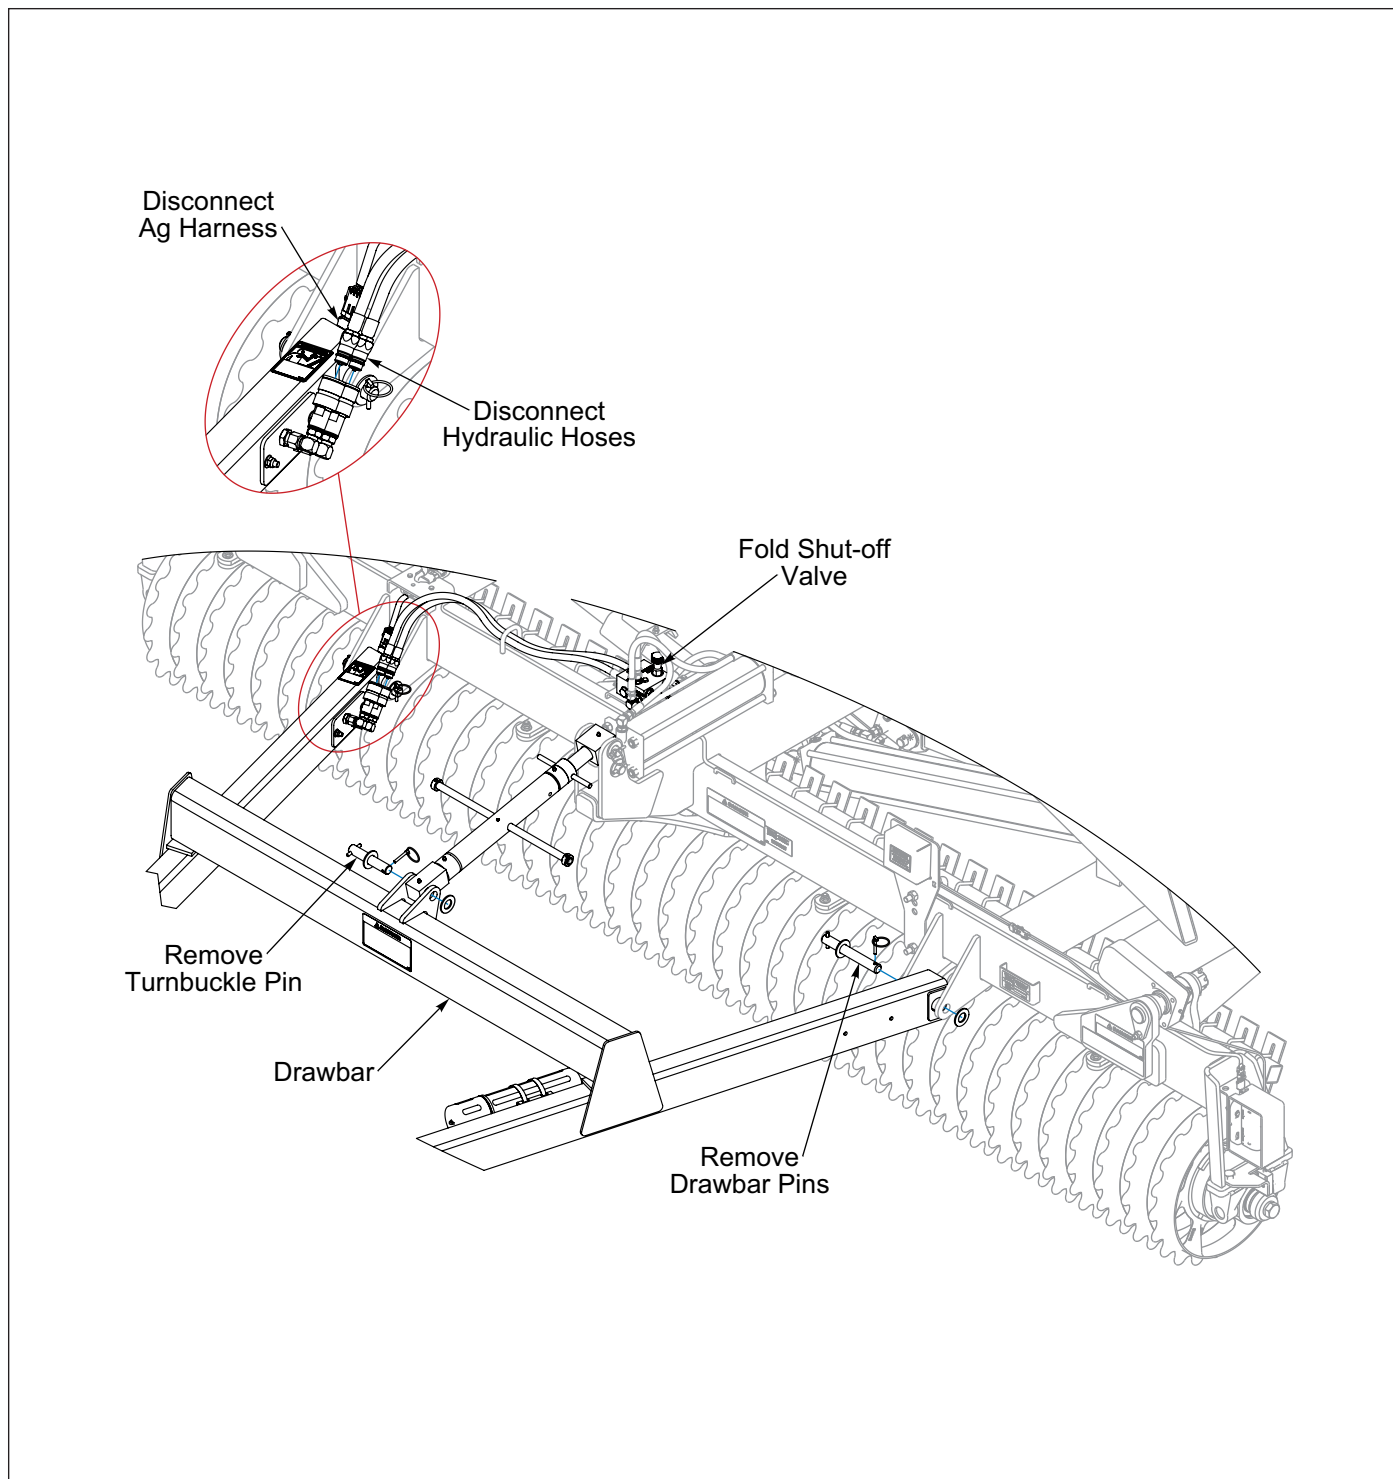

Figure 3-9: Drawbar Removal
1. With the Wing Float Pulverizer fully raised and wings folded, close the Fold Shut-off Valve completely. **See Figure 3-9.**